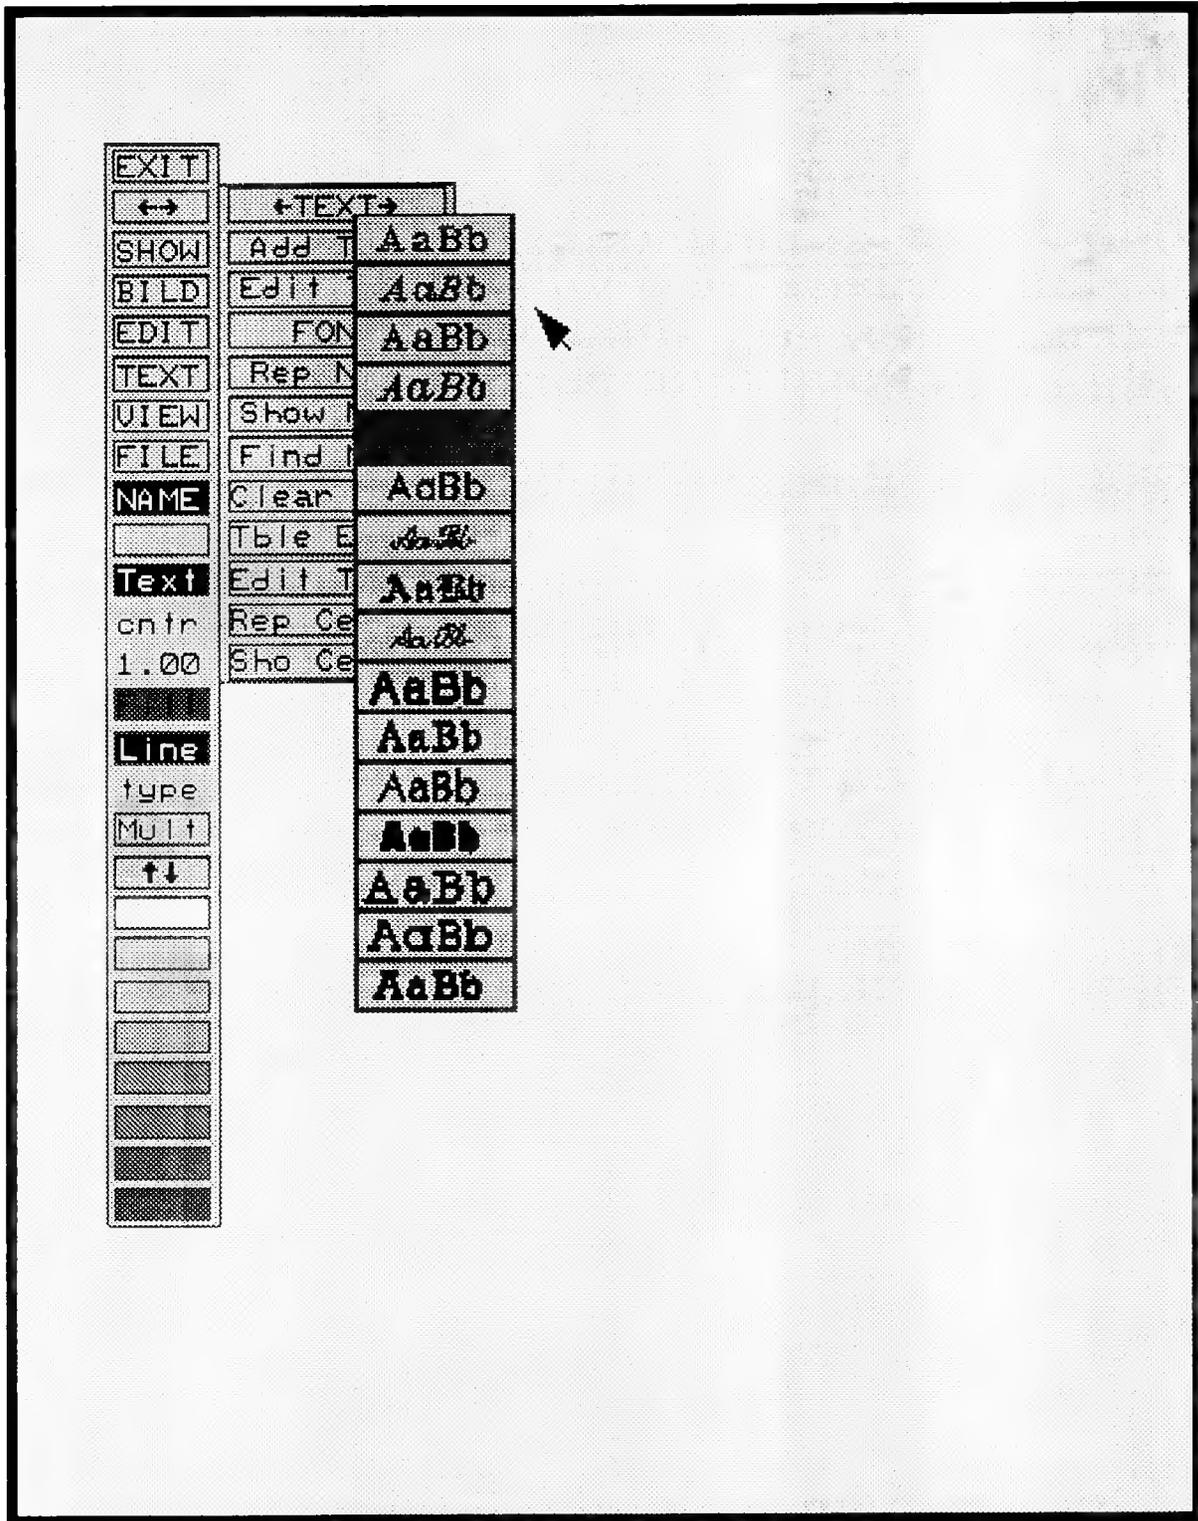

Figure 17. FONT selection menu.
4.1.6.3 FONT. This text suboption allows you to change the FONT type of the text. When you invoke this option, Figure 17 will be displayed. To select a font, position the cursor on the desired font and press the left mouse button. The font is now selected. New text will now appear in the new font style. This option updates the global font default. **NOTE:** The currently selected font is shown in a different color.